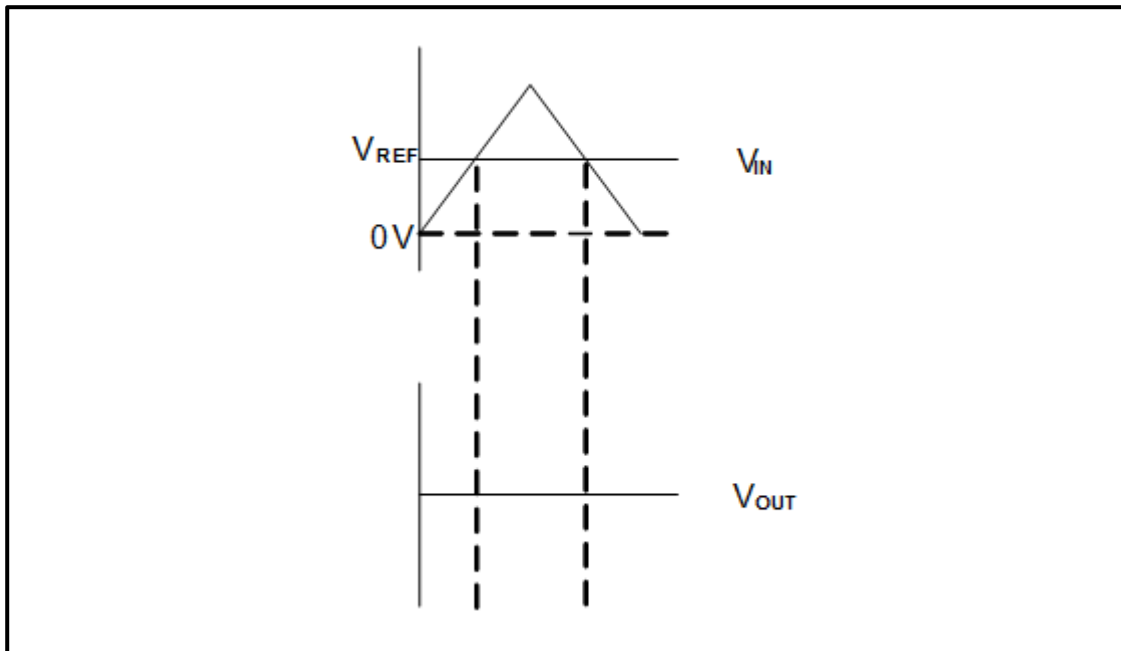

FIGURE 7.6: INPUT SIGNAL TO AN INVERTING COMPARATOR
7.6 FIGURE 7.6 below shows the input signal to an inverting comparator. The reference voltage is greater than zero. Draw the input signal and directly below that, on the same y-axis, draw the output signal. Label your answer.